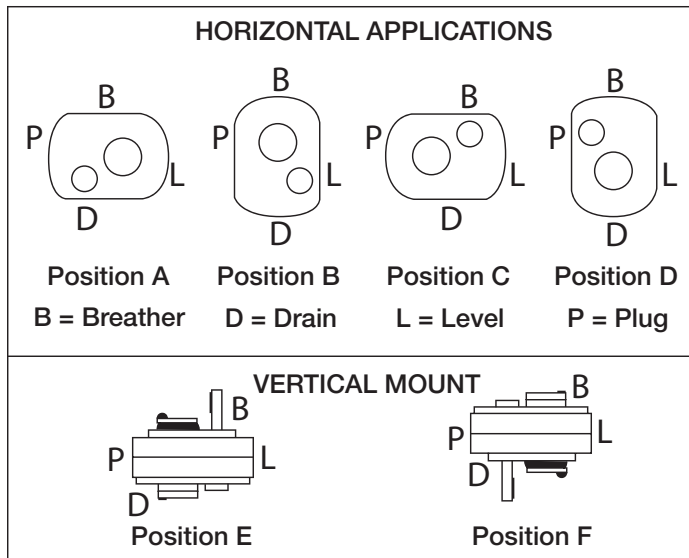

Fig. 1 – Mounting Positions
2. Determine the running positions of the reducer. (See Fig. 1)
1. However, if running position is over 20° in position “B” & “D” or 5° in position “A” & “C”, either way from sketches, the oil level plug cannot be used safely to check the oil level, unless during the checking, the torque arm is disconnected and the reducer is swung to within 20° for position “A” & “C” or 5° for position “B” & “D” of the positions shown in Fig. 1. Because of the many possible positions of the reducer, it may be necessary or desirable to make special adaptations using the lubrication filling holes furnished along with other standard pipe fittings, stand pipes and oil level gauges as required.
† Refer to Figure 1 for mounting positions.
Note: If reducer position is to vary from those shown in figure 1, either more or less oil may be required. Consult Dodge. If output is less than 15 RPM, consult Dodge.